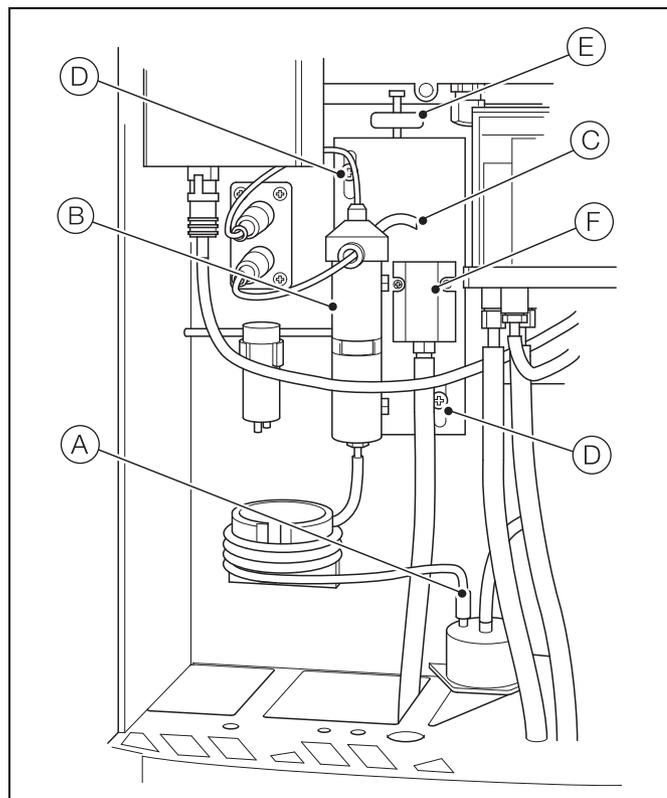

Fig. 4.2 Setting the standard solution flowrate
Referring to Fig. 4.2:
2. Referring to Fig. 4.2, rotate the sensor to position the drain tube outlet (C) over the sensor drain tundish (F).